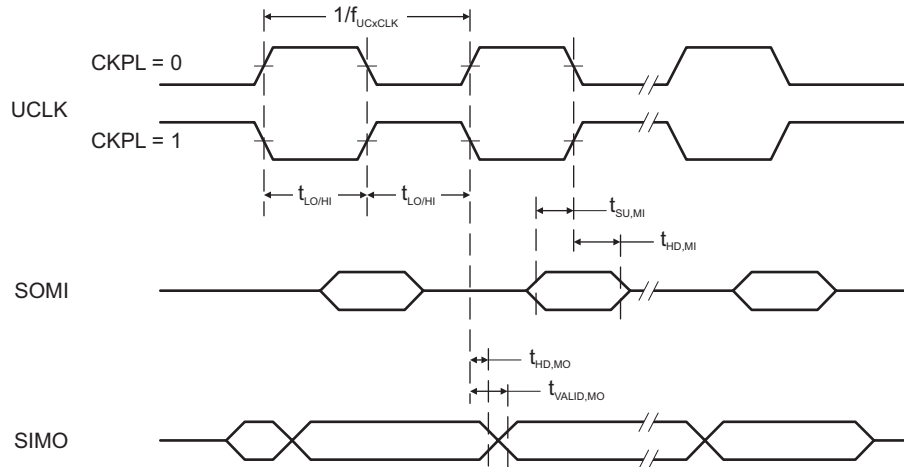
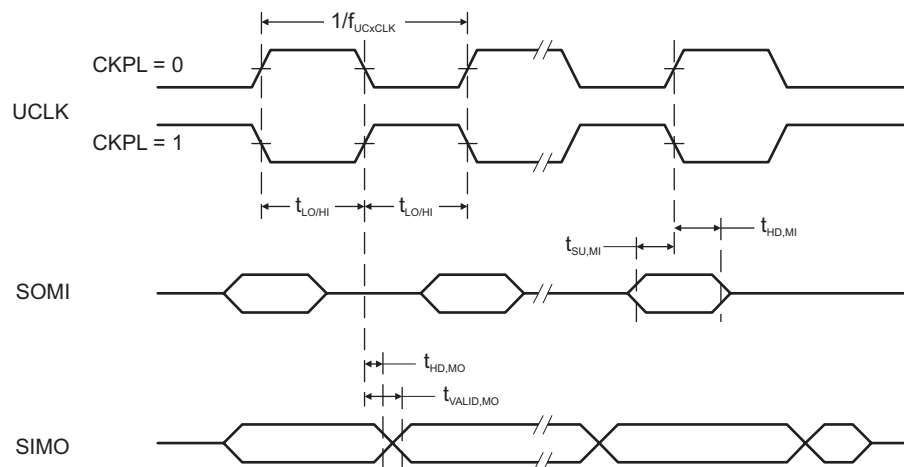

Figure 5-14. SPI Master Mode, CKPH = 0
Figure 5-15. SPI Master Mode, CKPH = 1
over recommended ranges of supply voltage and operating free-air temperature (unless otherwise noted)(1) (see Figure 5-14 and Figure 5-15)
(2) Specifies the time to drive the next valid data to the SIMO output after the output changing UCLK clock edge. See the timing diagrams in Figure 5-14 and Figure 5-15.
(3) Specifies how long data on the SIMO output is valid after the output changing UCLK clock edge. Negative values indicate that the data on the SIMO output can become invalid before the output changing clock edge observed on UCLK. See the timing diagrams in Figure 5-14 and Figure 5-15.